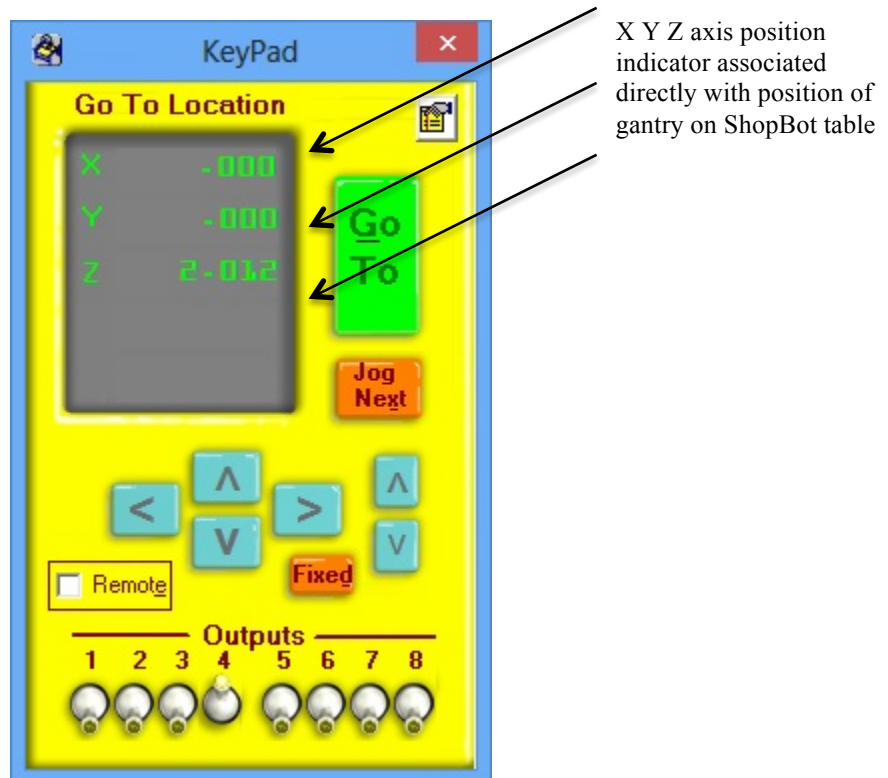

Figure 10: Keypad Dialog Box
13. Click on the **PAGEUP & PAGEDOWN** keys to move the head along the **Z AXIS**. See the location change in the Keypad Dialog Box (Figure 10).